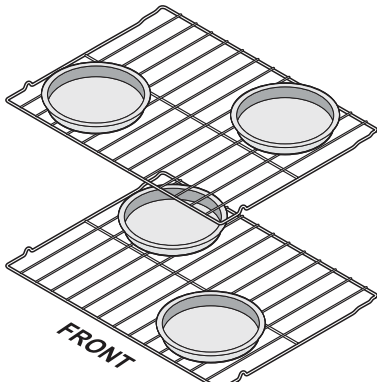

Figure 4: Pan positions two rack baking
- When baking using two oven racks, position cookware as shown in Figure 4.